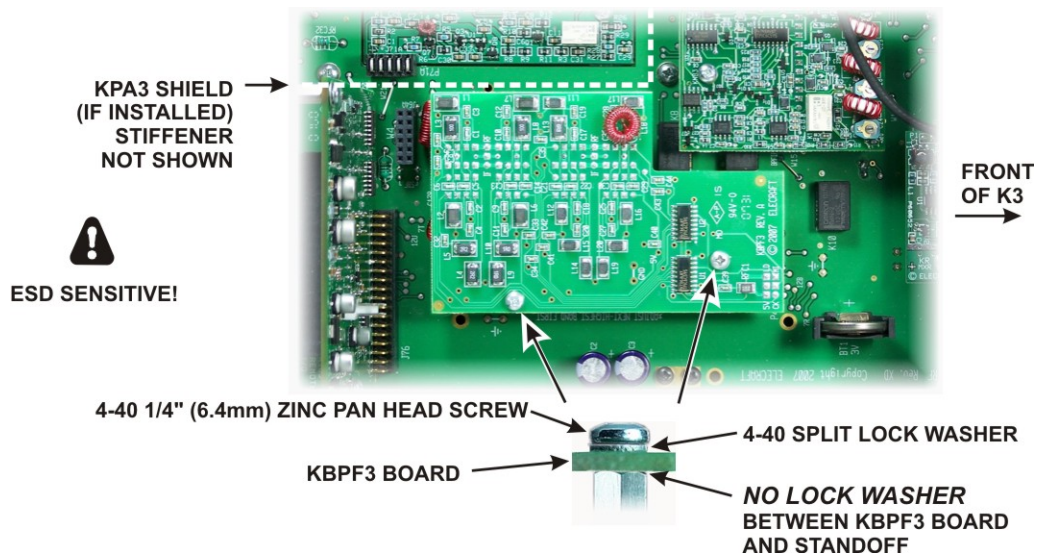

Figure 88. Installing the KBPF3 Option Board.
□ Install the board on the standoffs you installed earlier as shown in Figure 88. The screws and lock washers needed are supplied with your KBPF3 Option kit. There are three connectors on the bottom of the KBPF3 board that must be properly mated to P44A, P44C and P44E on the RF board. Even though the connectors are hard to see if the KPA3 shield is installed, they can be aligned as follows: